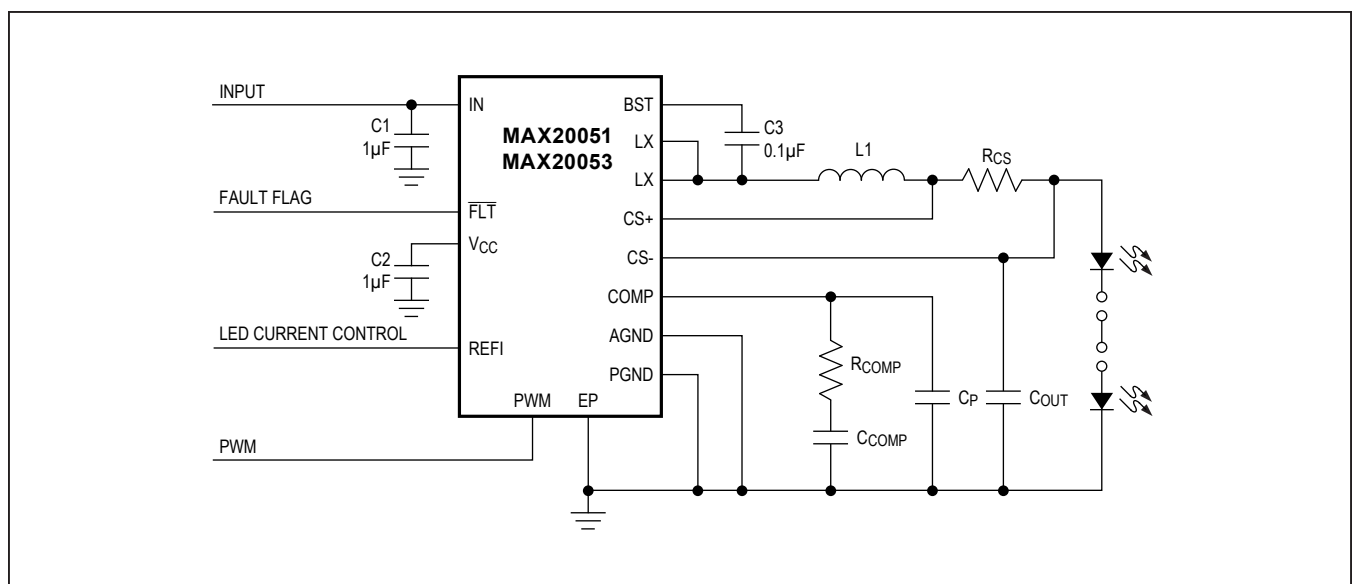

Figure 3. Typical Application Circuit Using the MAX20051
Normal sensing of the LED current should be done on the high side where the LED current-sense resistor is connected to the inductor. The other side of the LED current-sense resistor goes to the anode of the external LED string. The LED current is programmed using R_{CS} (see Figure 3). When $REFI$ is set to a voltage $>1.3V$, the internal reference regulates the voltage across R_{CS} to 220mV. The current is given by:
The MAX20050/MAX20052 have internal loop compensation and there is no user-available adjustability of the loop compensation components. In the case of the MAX20051/MAX20053, an external COMP pin is present and an external compensation network is required for stable operation. See Figure 3 for the typical application circuit using the MAX20051.
- 1) Large switched currents flow in the IN and PGND pins and the input capacitor C1 of Figure 3. The loop formed by the input capacitor should be as small as possible by placing this capacitor as close as possible to the IN and PGND pins. The input capacitor, device, output inductor, and output capacitor should be placed on the same side of the PCB and the connections should be made on the same layer.